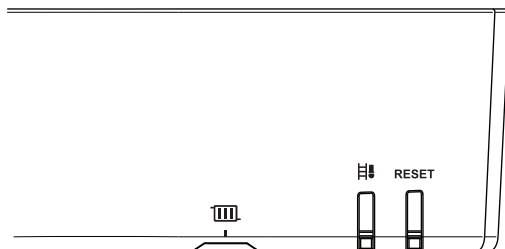

Fig. 2
4.4.1 User Interaction Controller (Control Panel) (Fig. 2)